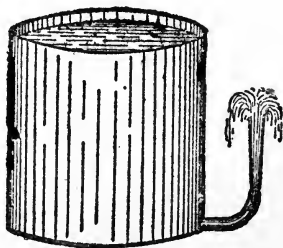

Fig. 1.
**THE VOLT.**—This term may be better understood by making a comparison with something you all know of. Suppose we have a tank containing 100 gallons of water, and we want to discharge it through a half inch pipe at the bottom of the tank. Suppose, further, that we wanted to make the water spout upwards, and for this purpose the pipe was bent upwards as in figure 1.
If you opened the tap the water would spout out and upwards as in figure 1.